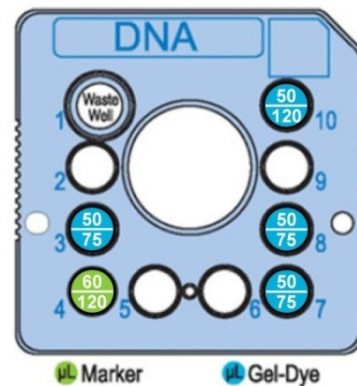

Figure 1. Chip Preparation
4. Using a Reverse Pipetting Technique, add Gel-Dye to chip well 3, 7, 8 and 10 as shown in Figure 1. For **Small-batch add 50 µL per well.** For **Large-batch add 75 µL in wells 3, 7 and 8 and 120 µL in well 10.**
5. Add Genomic DNA Marker  to chip well 4 as shown in Figure 1. For **Small-batch add 60 µL.** For **Large-batch add 120 µL.**